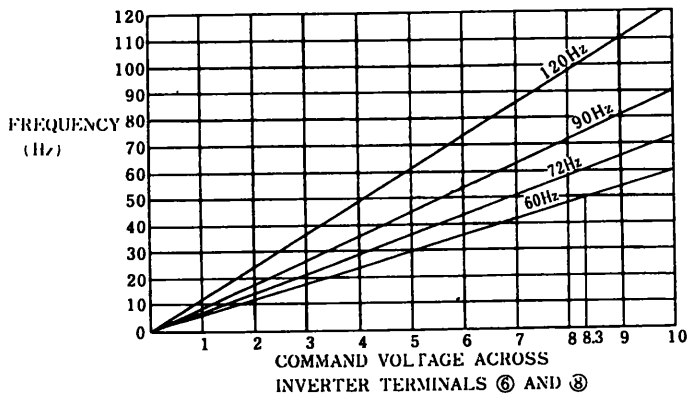

Fig. 13.3 Frequency Meter Correction
(3) Check the motor and the load machines for readiness for operation.
(4) Unscrew the wing nut on the right side to open the control board, and check the following:
(5) Option cards for H Series (if any) for correct mounting location and wiring connector plugging.
(6) The grounding terminal correctly wired? Measure the resistance across the external terminals and the grounding terminal one by one with a multimeter ($\times 10^3$ range), and reading should be ∞
(7) The variable resistors on the control board for correct setting
(8) Adjust the MTR ADJ on the VS Operator so that the voltage for the maximum frequency setting is correctly indicated by the frequency meter. The relationship between command voltage and frequency is shown in Fig. 13.3. Set the frequency meter according to this relationship. Never test the insulation resistance and dielectric strength of the inverter. To test the insulation resistance of the motor, be sure to disconnect the output wires from the inverter terminals U, V and W.
(7) Turn variable resistor 1RH in the VS Operator until the voltage across terminals (6) and (8) becomes 10VDC (60 Hz) or 8.3VDC (50 Hz) (Fig. 13.3). The VS Operator is set for the maximum frequency.